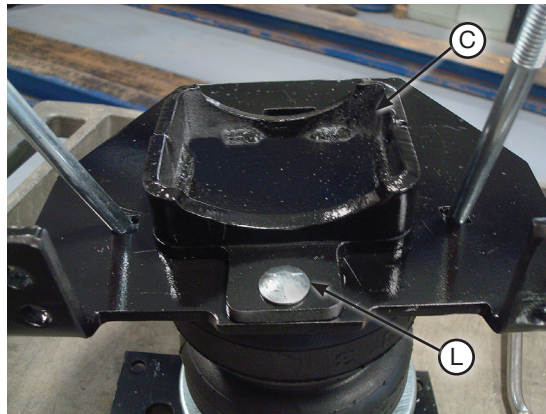

fig. D.11
6. Install the lower bracket cup (C) onto the lower bracket main plate using the 5/16"-18 x 3/4" carriage bolt (L) (Fig. D.11). Cap with M8 flat washer (O) and 5/16"-18 nylon lock nut (Q) (Fig. D.12). Snug bolt down but leave loose enough for bracket to move freely in slot.